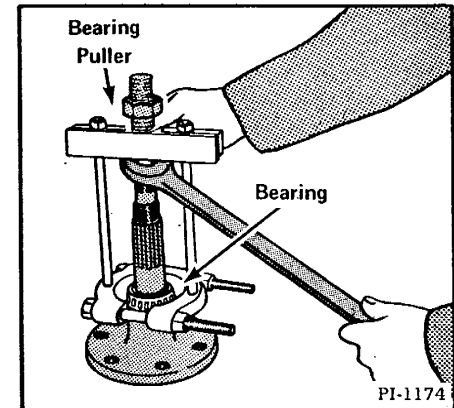

Fig. 4-34 Removing Axle Bearing
(2) Remove the axle bearing from the axle shaft with a bearing puller (Fig. 4-34).